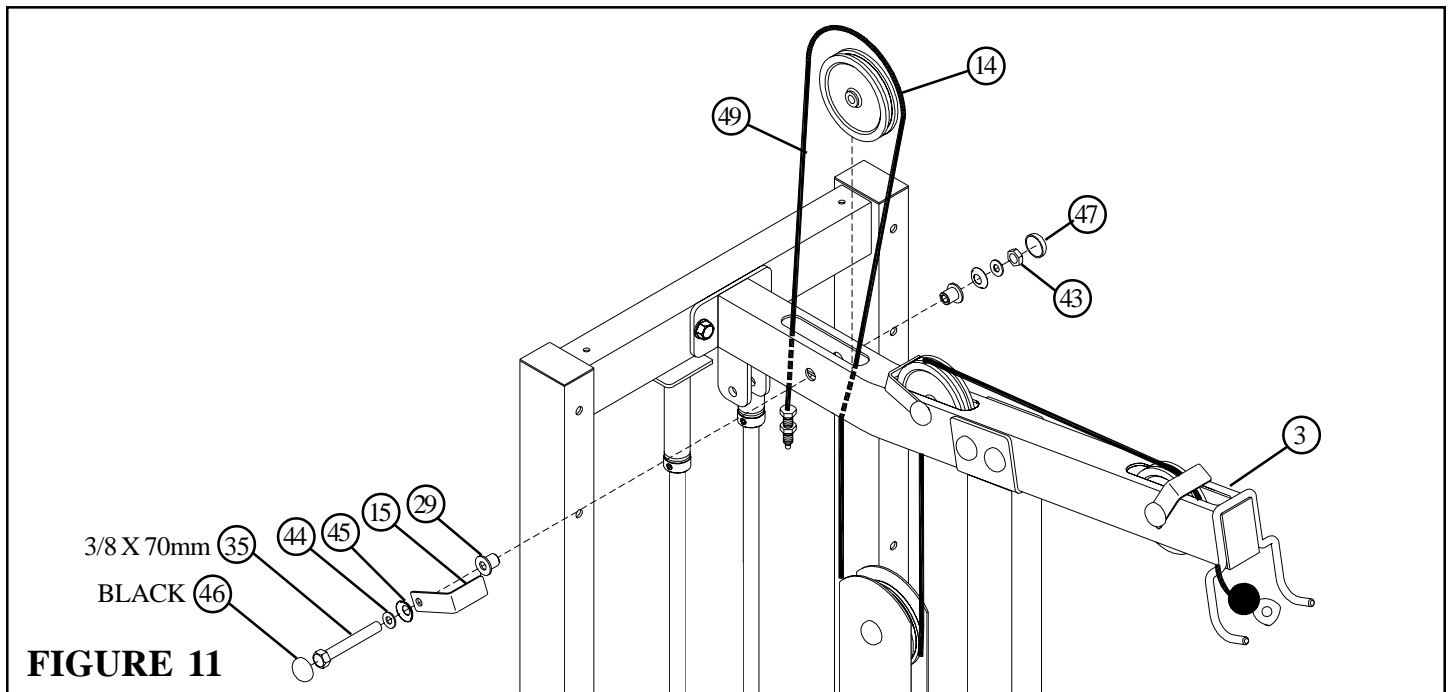

FIGURE 11
- Route the LAT CABLE (49) back through the LAT/LOW BOOM (3) as shown and **SECURELY** assemble one 4-1/2" PULLEY (14) to the LAT/LOW BOOM (3) using one BLACK RH CAP (46), one RH CAP (47), one 3/8 X 70mm BOLT (35), two 3/8" SAE WASHERS (44), two 3/8" RH WASHERS (45), one 2-7/8 X 2-1/4" CABLE CLIP (15), two 3/8 X 1/2" FLANGE SPACERS (29) and one 3/8" LOW HEIGHT LOCK NUTS (43) as shown in FIGURE 11.